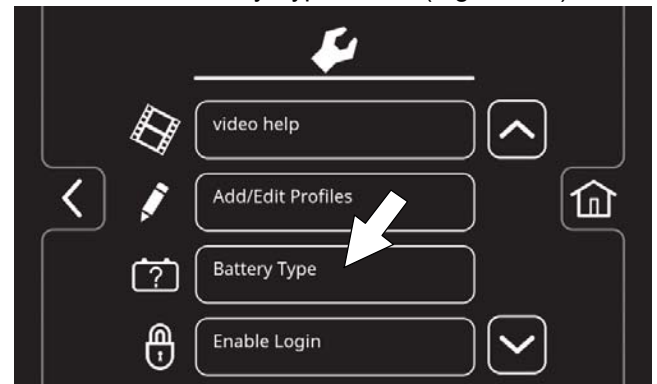

FIG. 127
- Press the Battery Type button (Figure 127).